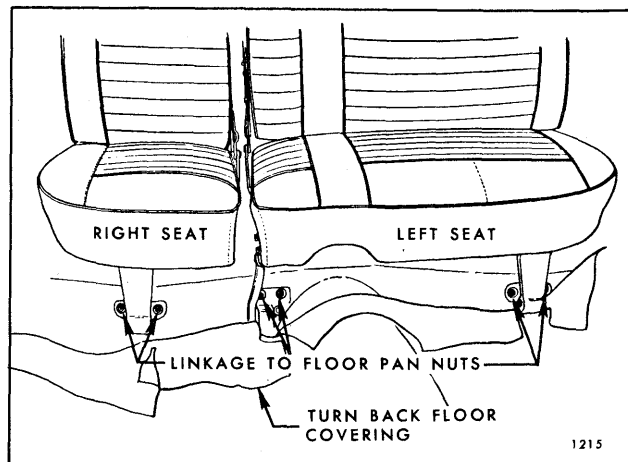

Fig. 10-69—Folding Second Seat Front Linkage
2. Mark location of front linkage support on floor pan to facilitate installation in same position. Support front of seat. Remove bolts securing linkage to seat and nuts securing linkage to floor pan studs (see Fig. 10-69); then, remove front linkage.